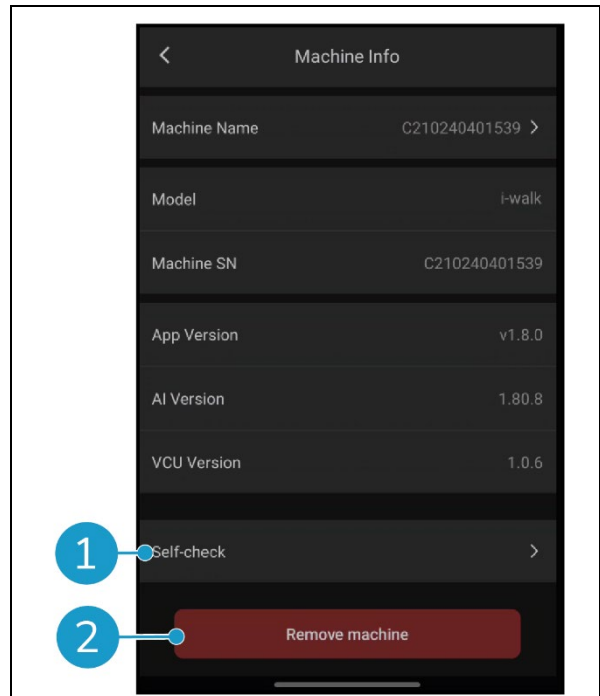

Figure 36
- Tap the [\[Self-check\]](#) button (Figure 36, pos. 1) to run a diagnostic check on the machine.
- Tap [\[Remove machine\]](#) (Figure 36, pos. 2) to remove the machine from your i-walk app.